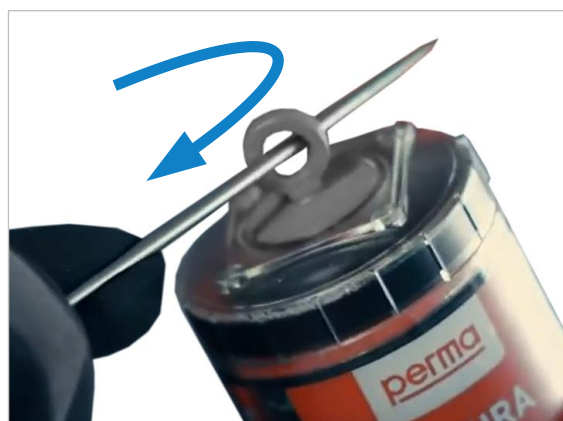

Figure 53: Activation with activation screw
- Open the front service door and unscrew the used lubricator (S) from the lubrication point.
- Remove the cap of the new cartridge. Release lubricant dispensing by screwing in the activating screw with a suitable tool, until the O-ring breaks off (see ⇒ Figure 53 on the right).